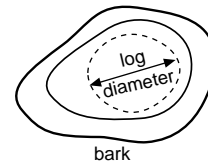

Figure 7a: Measure the axis of an imaginary circle drawn on the butt end.
- (a) Fluted end, - imagine a circle drawn on the butt as shown in Figure 7a, and the axis of the circle is measured.